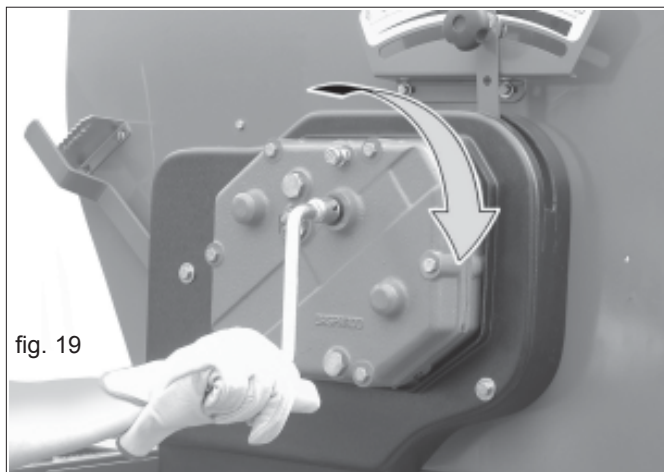

fig. 19
- 5) Insert the handle (Fig. 19) in the gearbox shaft (3 Fig. 1) and turn it clockwise.